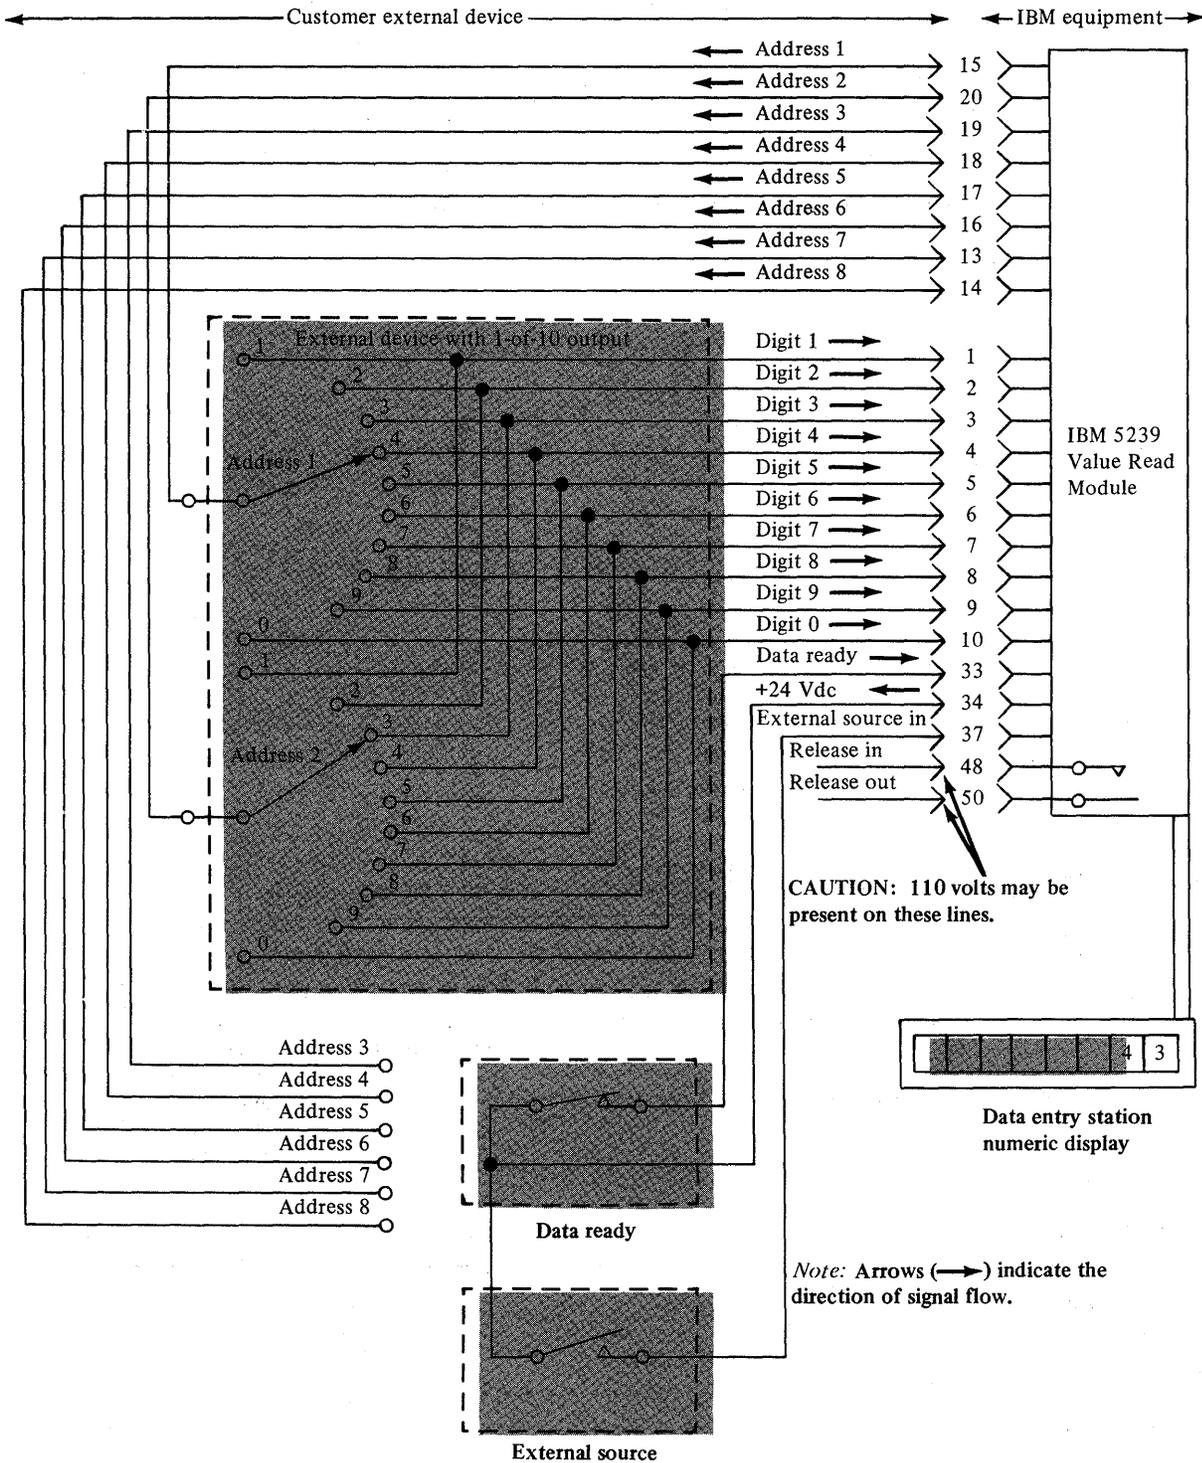

Figure 3-28. 1-of-10 device attached to the 5239 Value Read Module
- ( ) Determine the wiring connections necessary to attach the external device(s) to the stubbed end of the signal cable. Refer to the signal cable wire list in Figure 3-28 and to Figure 3-32.
The maximum circuit resistance measured between an 'address' line and a selected 'data' (digit) line at the signal cable input to the value read module must not exceed 220 ohms (refer to Figure 3-28).